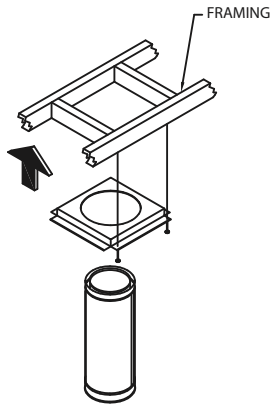

Figure 5
installed on the underside of the ceiling/floor framing (**Fig. 5**). Use a minimum of either (1) 8 penny nail or (1) 1-1/4" wood screws per corner.